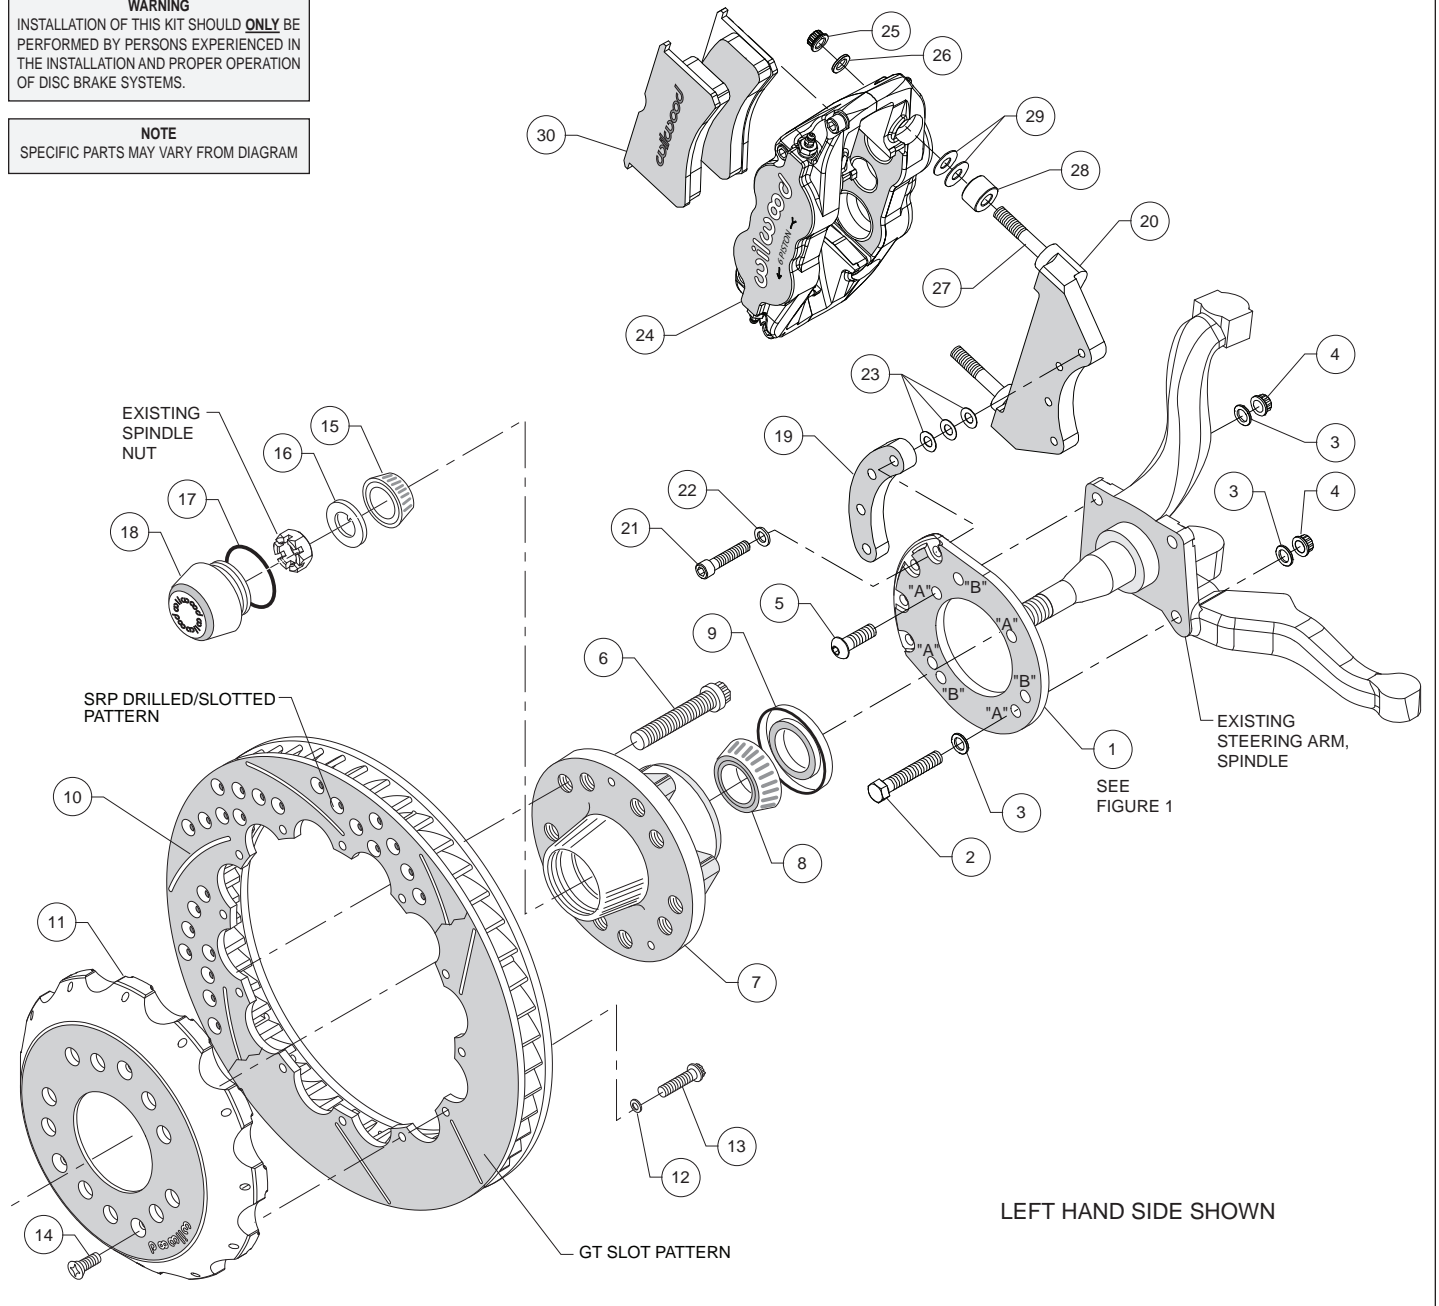

Figure 2. Typical Installation Configuration
Assembly Instructions (numbers in parenthesis refer to the parts list and Figure 2 on the preceding pages):
•Align bracket, using the four "A" holes, to the face of the spindle and attach using bolts (2 and 5), washers (3), and lock nuts (4), as shown in Figure 2 and Photo 1. Temporarily tighten the mounting bolts. **NOTE:** The bracket must fit squarely against the mounting points on the spindle. Inspect for interference from casting irregularities, machining ridges, burrs, etc. Torque lock nuts (4) to 25 ft-lb.
•Orient the rotor (10) and the hat (11) as shown in Figure 2 and Photo 6. Attach rotor to hat using bolts (13) and washers (12). Using an alternating sequence, apply red Loctite® 271 to the
- Slide the hat/rotor assembly (10/11) onto the hub (7) taking care to align the small countersunk holes in the hat with the small threaded holes in the hub (7). **NOTE:** The hat must fit flush against the hub face or excessive rotor run out may result. Install three flat head screws (14) through the small holes in the hat, Photo 5, and torque to 85 **in-lb**.
- Attach the caliper mounting bracket (20) to the spindle bracket (1) using bolts (21), washers (22), and spacer (19) as shown in Figure 2 and Photo 7. Initially place three .015" thick shims (23) on each bolt between the spacer and the caliper bracket. Temporarily tighten the mounting bolts. Later, after the caliper alignment has been checked, the mount bolts will be secured using red *Loctite*® 271.
- **NOTE:** This kit contains distinct right and left hand calipers that must be mounted in a specific direction, as described below. Lubricate the caliper mounting studs (27) with lightweight oil. Initially place two .035" thick shims (29) and spacer (28) on each stud between the caliper and the bracket, as shown in Figure 2 and Photo 8. Mount the caliper (24) onto the bracket (20) using lock nuts (25) and washers (26), Figure 2. Ensure that the caliper is mounted so the largest pistons are at the rotor exit end of the caliper, in relation to the direction of rotor rotation. Temporarily tighten the lock nuts and view the rotor through the top opening of the caliper. The rotor should be centered in the caliper, Photo 9. If not, adjust by adding or subtracting shims (23) between the caliper bracket (20) and the spacer (19). Always use the same amount of shims on each of the four mounting bolts. Once the caliper alignment is correct, remove the bracket mounting bolts one at a time, apply red *Loctite*® 271 to the threads, and torque to 25 ft-lb.